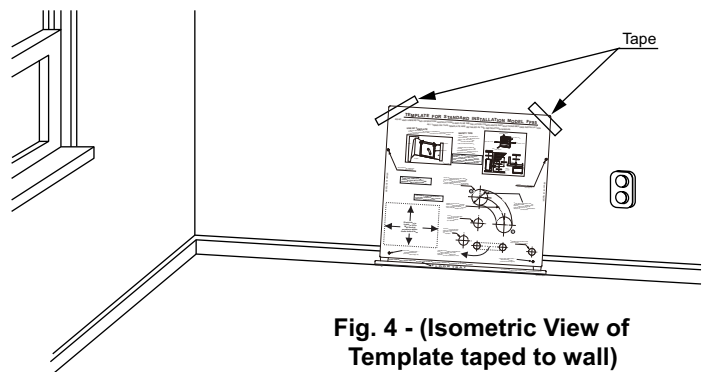

Fig. 4 - (Isometric View of Template taped to wall)
3. A wall template is supplied with each FF-95C. Affix to the wall (see fig 4) with removable tape or drawing pins to identify and follow instructions re location of the wall hole for the Balanced Flue Pipe & Fuel Pipe.